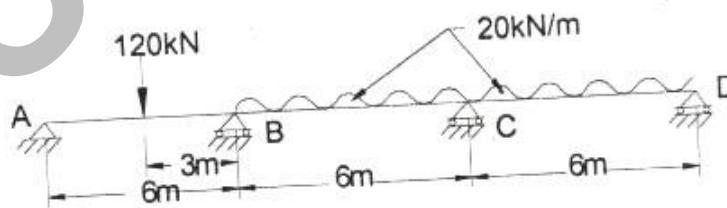

Figure-1
4. Analyze the continuous beam shown in Figure-1 by Three Moment Equation (14M)